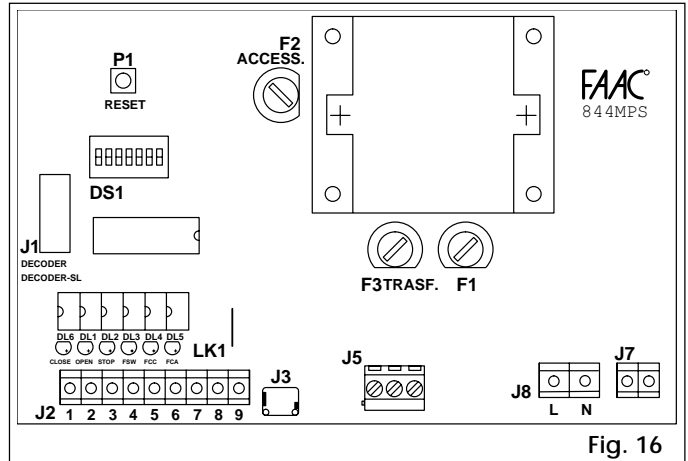

Fig. 16
- ④ **Terminal block J6 (fig. 16)**
- ⑤ **Terminal block J7 (fig. 16)**
① **Low voltage terminal block J2** (Fig. 16) is used to connect all accessories (see Table 4).